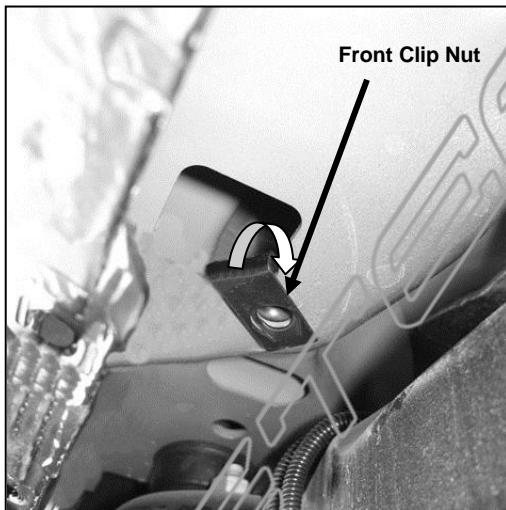

Figure 1
2. From underside of vehicle, locate the two front factory holes on the driver side floor panel, located by the front tire. With the threaded nut facing up, insert (1) 10mm Clip Nut through larger hole. Orient Clip Nut to engage into the smaller hole (**Figure 1**).